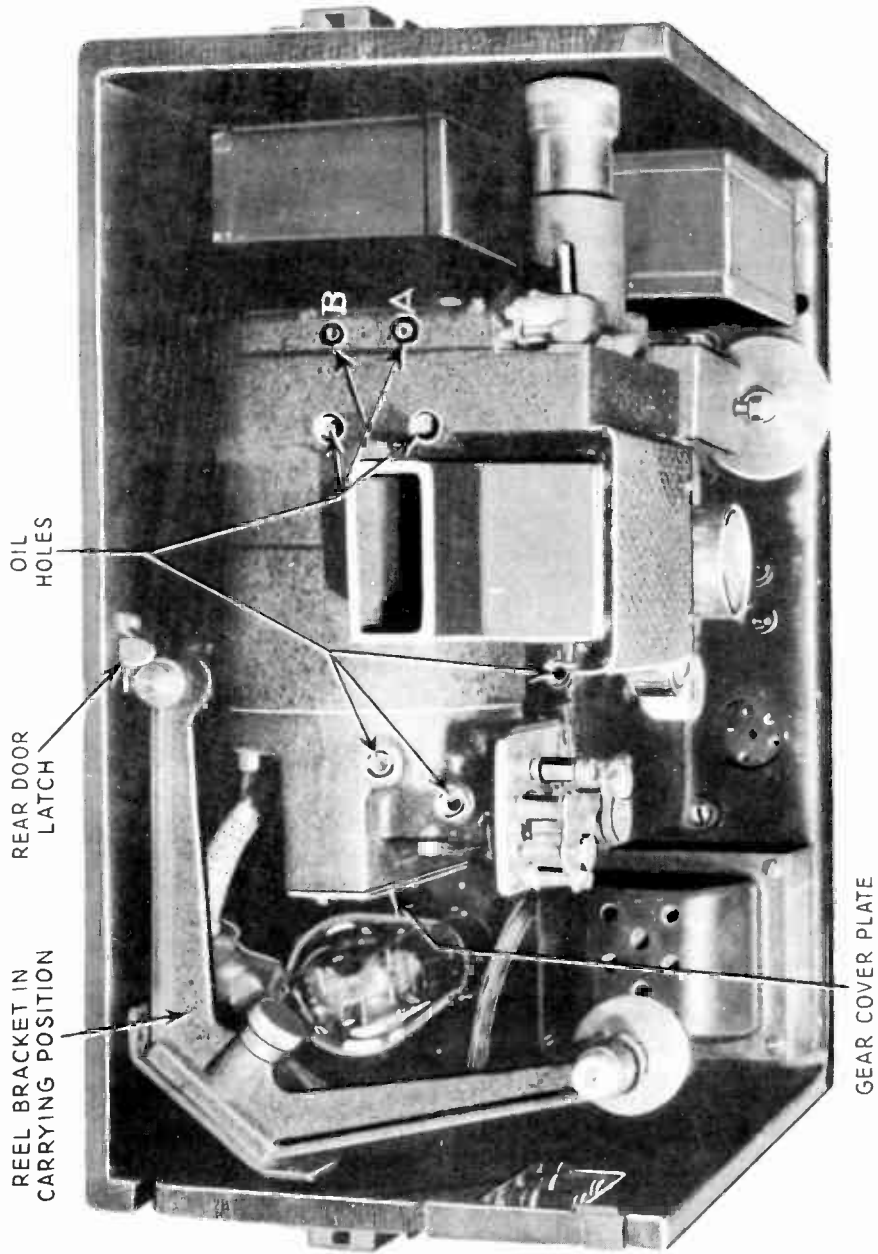

Fig. 13 - TOP VIEW SHOWING COMPACT ARRANGEMENT OF PARTS IN THE HOME PROJECTOR.
PROJECTOR MISCELLANEOUS TROUBLES. If the take-up belt fails to run, the cause will probably be the improper threading of the belt around its driving pulley. There are two pins, one above and one below the driving pulley, for preventing the belt from jumping off the pulley. The belt must pass between each pin and the pulley in order to rest properly in the pulley groove. See Figure 13.
In the gear cover plate of some models of the projector is a small screw, painted red, which must be removed before the projector is run. These models should never be turned upside down or set on end, or the oil in the gear case will run out of the screw hole. If the equipment is to be shipped by any carriers who may be likely to turn the unit upside down or on end, the screw must be replaced before shipment. See Figure 13.
Pass the loudspeaker and a-c line cords out of the projector-amplifier unit through the notch provided for the purpose in the rear of the case. See Figure 13.
- (k) When all of the film has been rewound, slip the spring belt off the reel bracket pulley and place the reel bracket in its carrying position in the case (see Figure 13).
- (a) All oil holes illustrated in Figure 13 should be filled once with oil every 90 days.
- (b) The oil hole marked "A" in Figure 13 should receive several drops of oil after every 30 hours of use. Some models of the projector have an oil hole located as shown at "B" in Figure 13, which should also receive several drops of oil after every 30 hours of use.